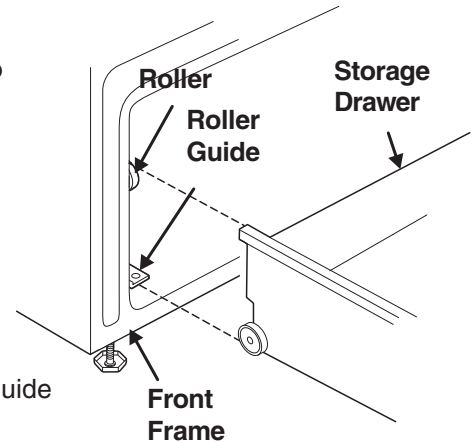

Figure 2
- Door removed from the oven - Figure 2
3. Grab the door by the sides and pull the bottom of the door up and toward you to disengage the hinge supports. Keep pulling the bottom of the door toward you while rotating the top of the door toward the range to completely disengage the hinge support (Figure 2).